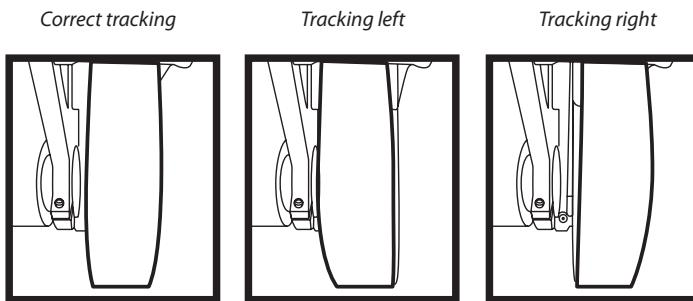
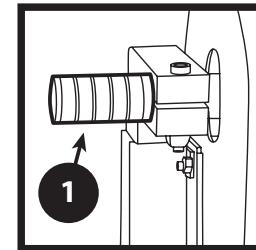

FIGURE 8A, B & C
FIGURE 9
2. If the abrasive belt does not remain centered on the contact wheel while the belt is moving, (Figure 8A, B & C) use the tracking adjustment knob on the upper left side of the machine to track the belt to the center of the contact wheel. Turning the knob will cause the belt to track to the right or to the left. (Figure 9)
- Verify proper tracking of the belt by rotating the tracking adjustment knob. (Figure 9, pg. 8) If the belt does not track while the machine is running it may be that the bolt that holds pressure against the tracking knob (Figure 12) is loose.